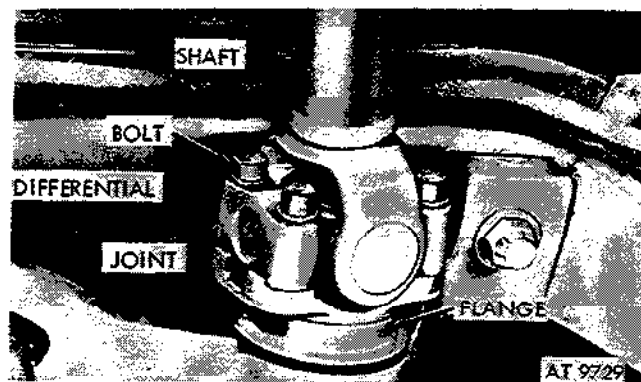

Figure 2-299. Remove front propeller shaft joint from front differential rear flange.
(3) Remove four bolts securing front propeller shaft universal joint to differential drive flange (fig. 2-299).